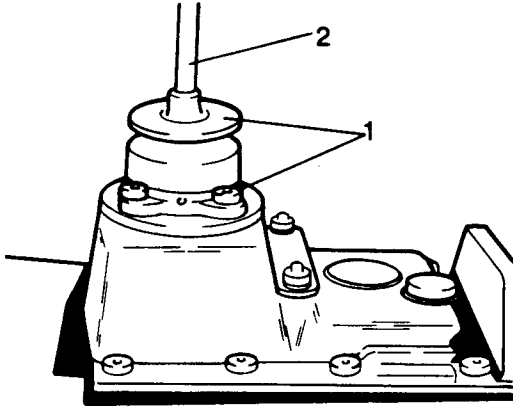

Fig H1.17
- (2) Refer to Fig H1.17. Remove the gear lever dust cover and fixings (1).
- (3) Remove the gear lever (2) together with its support bracket.